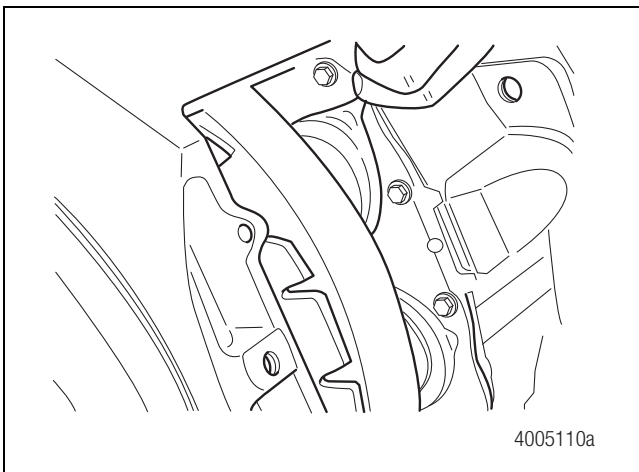

Figure 6.21
13. Use a 10 mm wrench to rotate the manual adjuster stem COUNTERCLOCKWISE and deadadjust the piston assemblies. With the brake fully deadadjusted, it may be necessary to lift the piston boot tab and release air that may be inflating the boot. Figure 6.21.